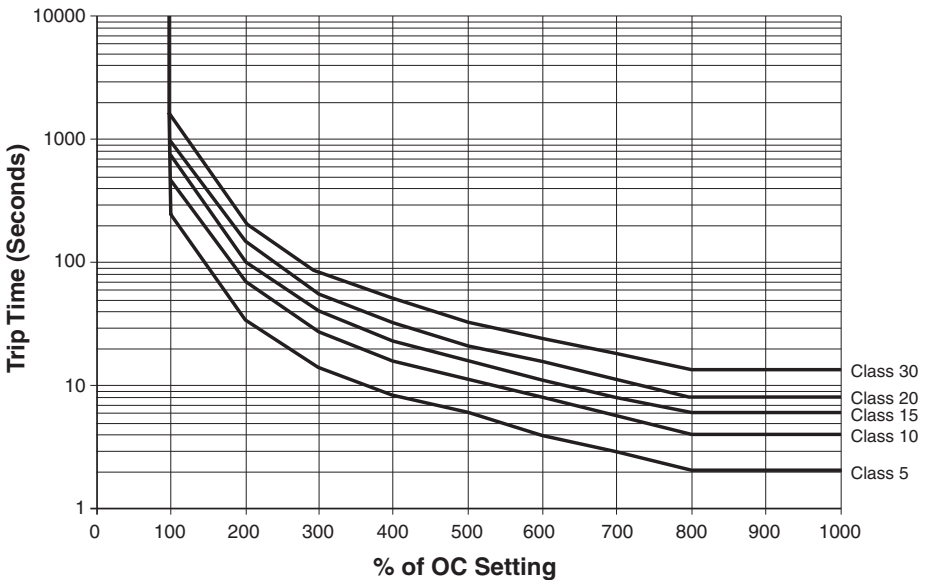

FIGURE NO. 3: Overload Trip Classes
- TC- From Figure No. 3, for this (and most) submersible pumps, TC = 10 (fast trip)